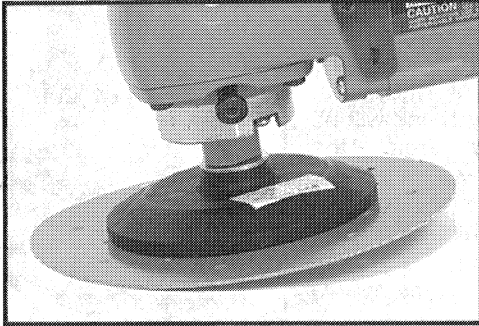

Fig. 3
3. Hold sander firmly by the rear and auxiliary handles, making sure sanding disc is clear of work and foreign objects. Start sander and lower at an angle so that approximately 1" to 1½" of the sanding disc contacts the work. See Fig. 3. Too great an angle may result in gouging or snagging the work, while too small an angle results in extreme difficulties in controlling the sander.